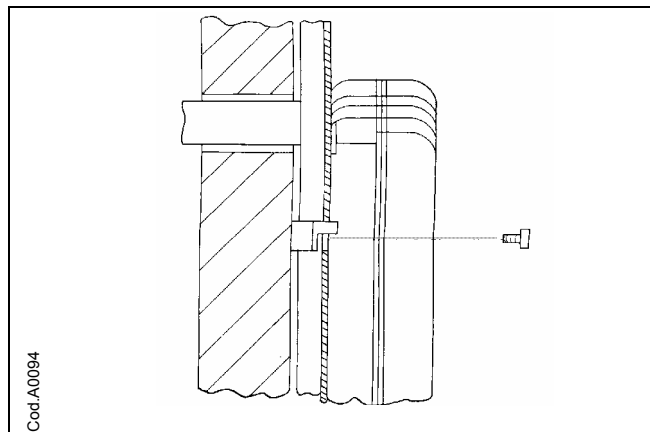

Figura 8
8. Position the heater on the wall inserting the inlet/outlet flue in the hole previously drilled. Make sure that the edges of the support bracket perfectly match the existing holes in the back on the unit (see Figura 8).